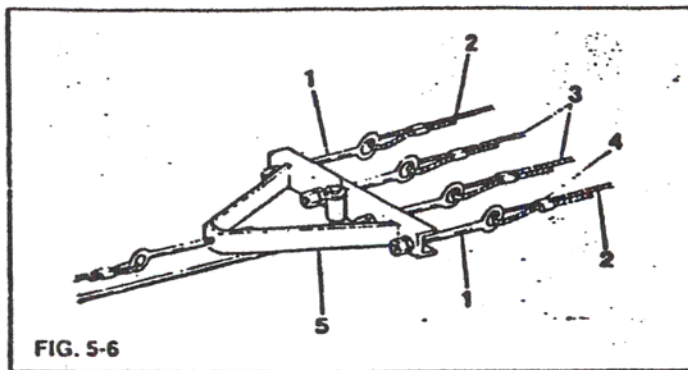

FIG. 5-6
4. Install stud and lower roof 3" to 4". Remove front lifter cable eyebolt (1) from yoke (5) underneath unit, and cut cable (2) behind clamp (4) so it will thread through pulleys and out of frame. See Figure 5-6.
6. Remove bolt (1) and locknut securing lifter assembly (2) to unit hardtop. (Omit on only outside cable removal)